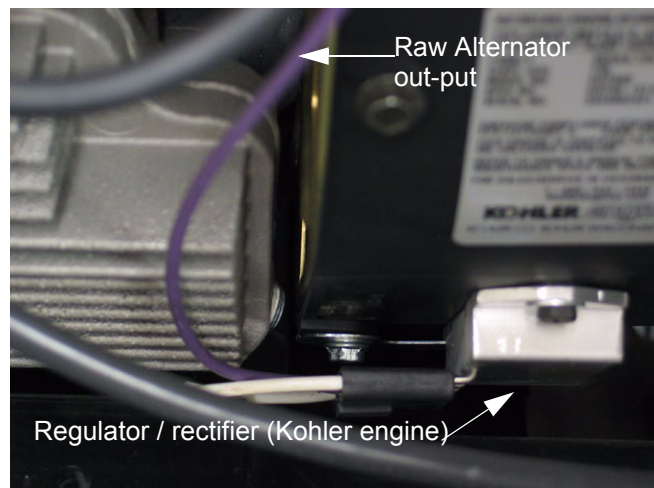

Figure 1.12
1.12. Systems vary slightly between engine manufacturers, but principles of operation are comparable. See Figure 1.12.